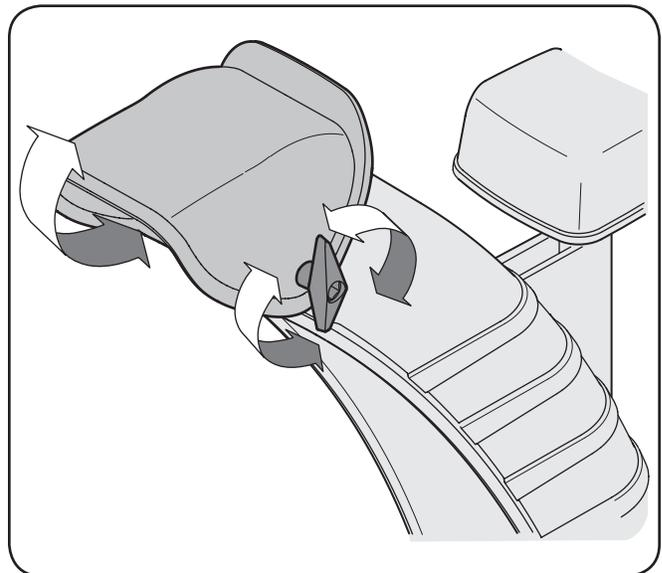

Figure 3-15
3. Pivot the chute upward or downward before retightening the wing knob. See Fig. 3-15.